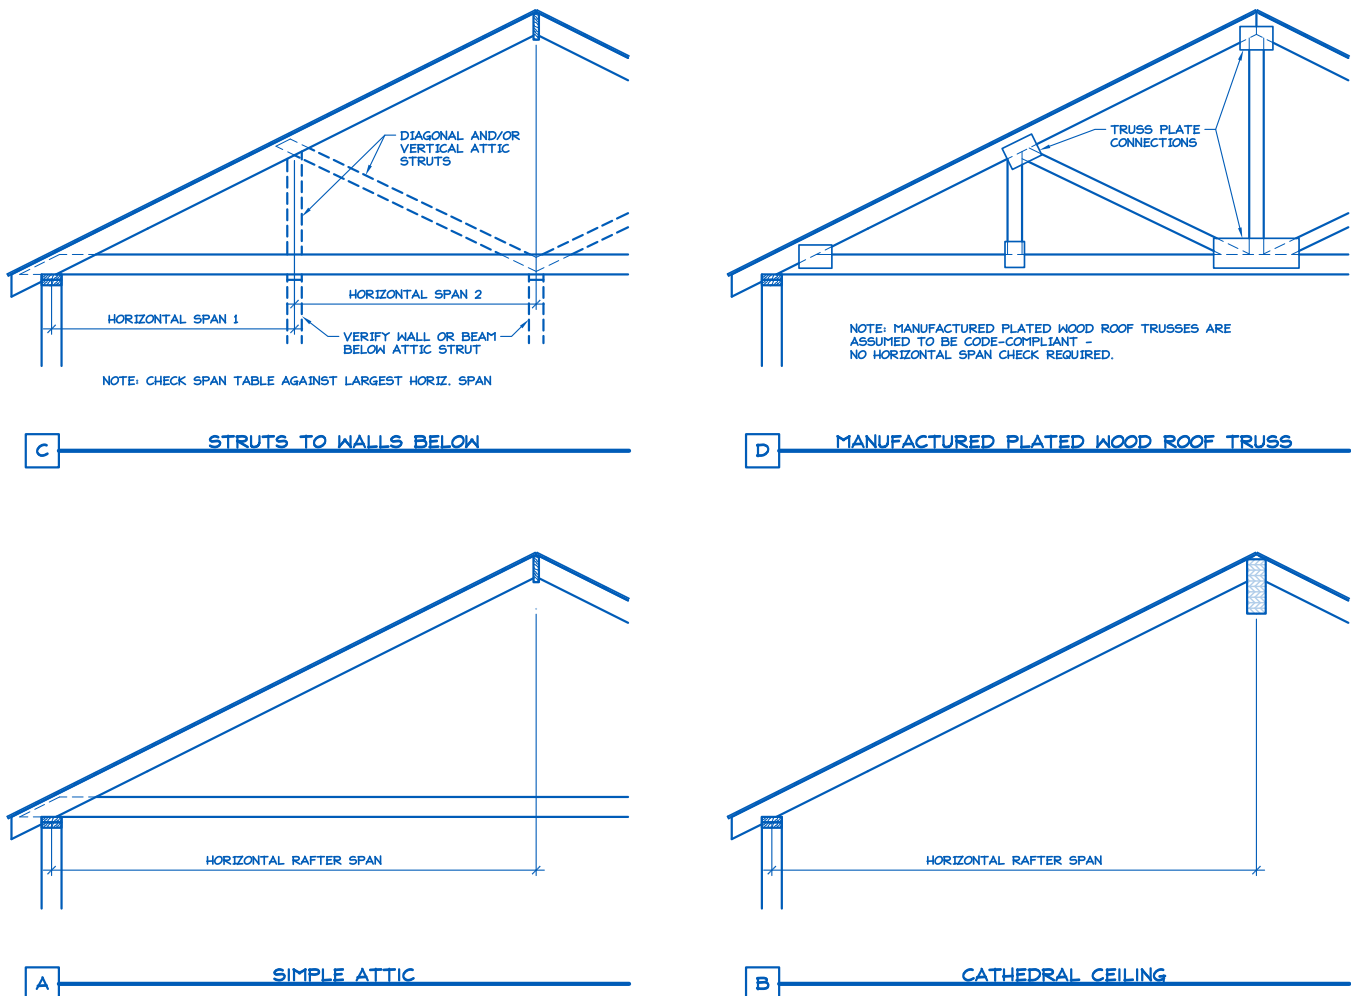

Figure 4 - Definition of Rafter Horizontal Span
- 5) Measured rafter horizontal span (see Figure 4): _____' - _____"ft-in
1. See Figure 4 for definition of roof rafter maximum horizontal span.